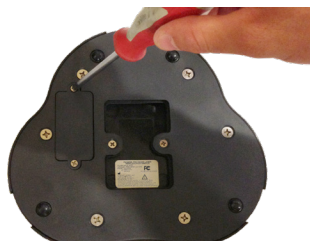

Figure 2
3. Use a philips-head screwdriver to remove the two screws securing the battery cover. Turn the screwdriver counterclockwise until the screws come out completely (Figure 2)